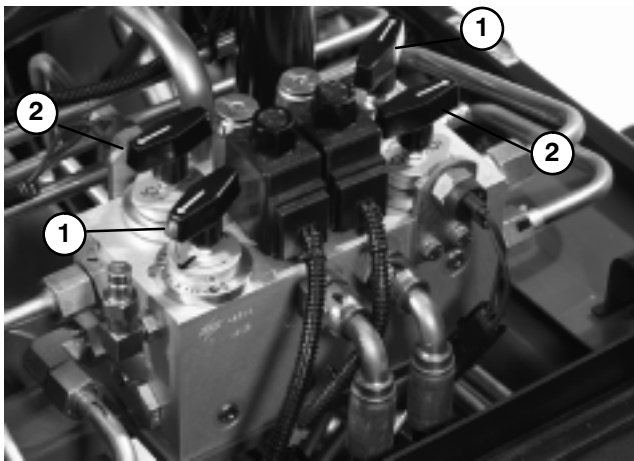

Figure 68
3. Locate the reel speed selector knobs and backlap knobs (Fig. 68). Rotate the desired backlap knob(s) to the backlap position and the desired reel speed selector knob(s) to position "1."